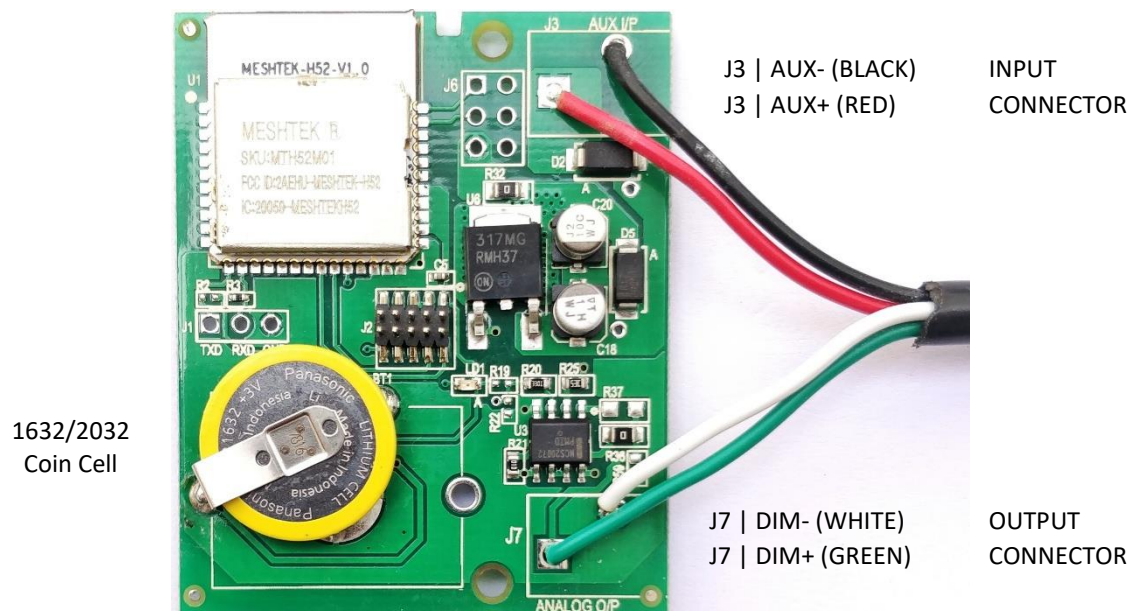

Figure 2-1 MeshTek® 1 Channel 0-10V SLC (41.5mm X 50mm)
- Representation of end user interface and connectors to MeshTek® 1 Channel 0-10V SLC is shown in Figure 2-1